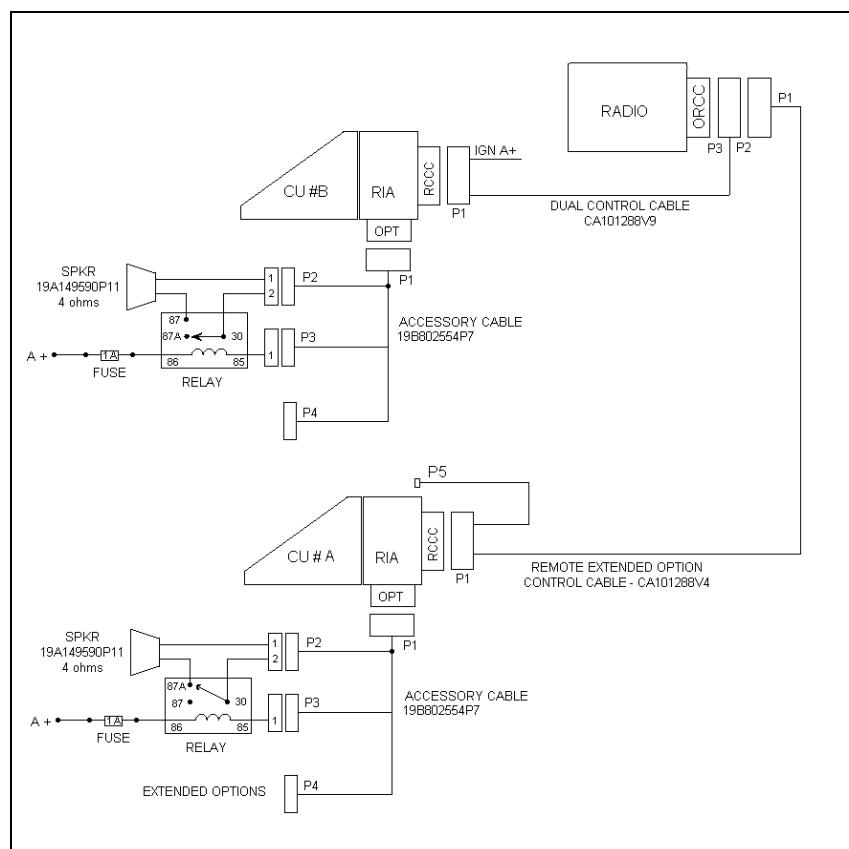

Figure 26 – M7100^{IP} Dual Control Unit Remote Mount/Remote Mount Installation Configuration
1. Referring to Figure 26, run the Remote Control Cable (CA101288V4) between locations for the Radio Unit and Main Control Unit.
- B. Hardwire each speaker directly (without relays) as shown in Figure 26.